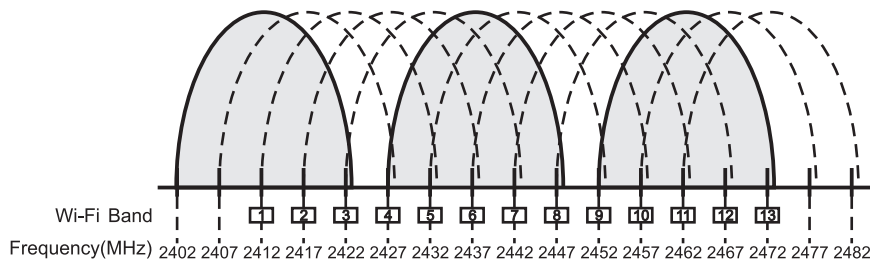

Fig. 5
- (A) Position the portable PA at least 5-meter away from Wi-Fi, Bluetooth or other 2.4 GHz wireless devices.
- (B) Maintain line-of-sight between the transmitter and receiver for ideal reception range.
- (C) User can scan environment for Wi-Fi devices with a smartphone app, normally Wi-Fi device selections are channels 1, 6, 11.
- (1) When Wi-Fi channel 1 exists on a device, portable PA channel can be set to 0 or 1 to prevent interference. Or select a lesser interference channel like 2, 3, 4, 5, 6, 7, 8, 9.
- (2) When Wi-Fi channel 6 exists on a device, portable PA channel can be set to 1 to prevent interference. Or select a lesser interference channel like 2, 3, 4, 5, 6, 7.
- (3) When Wi-Fi channel 11 exists on a device, portable PA channel can be set to 1 to prevent interference. Or select a lesser interference channel like 2, 3, 4, 5, 6, 8, 9.
(D) Wi-Fi Channel Distribution, See Fig. 5: